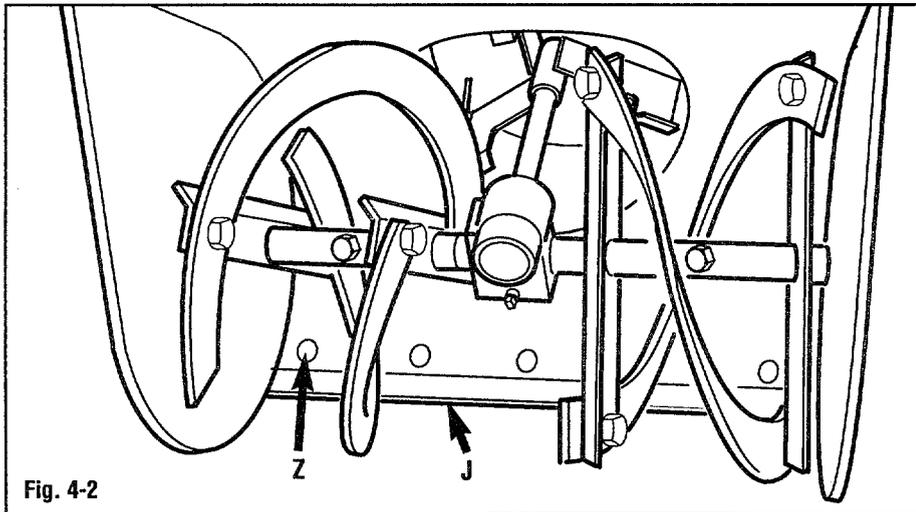
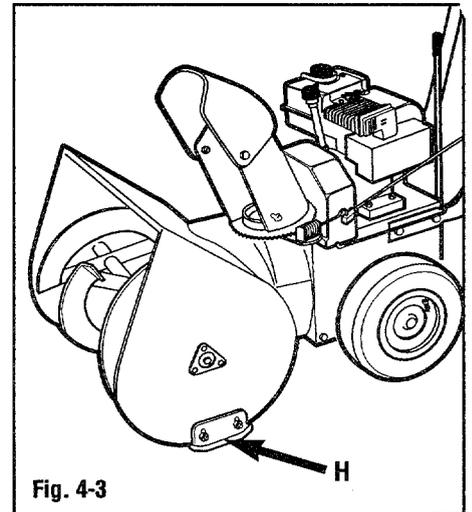

Fig. 4-2
Fig. 4-3
6. The unit should be adjusted so the auger housing and the scraper blade (J, Fig. 4-2) are 1/8" above the surface to be cleared. If the unit is used to clear a gravel or uneven surfaces, this adjustment should be increased so gravel or other foreign objects are not scooped into the auger.
- Loosen the hardware securing the skid shoes (H, Fig. 4-3).
- Adjust the skid shoes (H) until they are in the correct position to support the auger housing and the scraper blade (Adjust both skid shoes the same to prevent uneven snow removal).
- Tighten the hardware to lock the skid shoes (H) into the proper position.
7. The scraper blade (J, Fig. 4-2) can also be adjusted. Adjust the scraper blade (J) at the carriage bolts (Z, Fig. 4-2). Adjust the bottom edge of the scraper blade so it is parallel with the bottom edge of the auger.